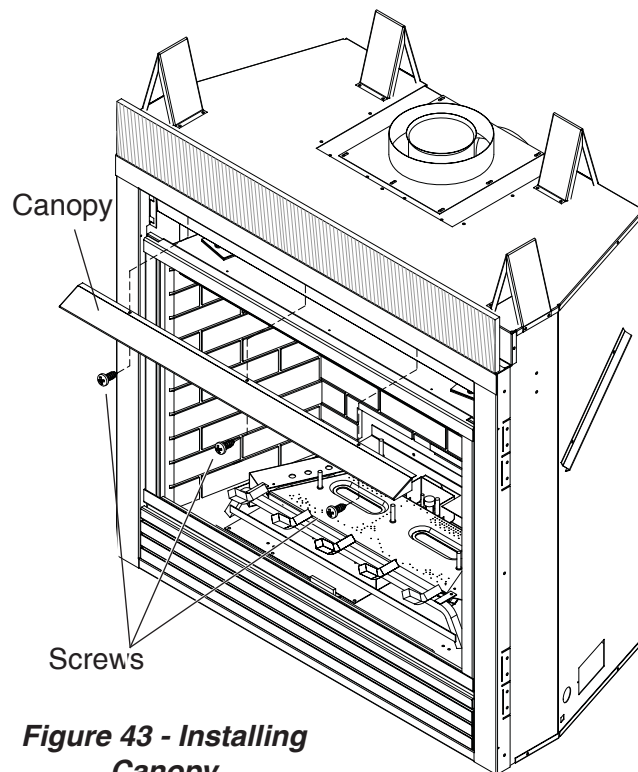

Figure 43 - Installing Canopy
2. Attach canopy to underside of top outer shell with three (3) screws provided. *See Figure 43.*